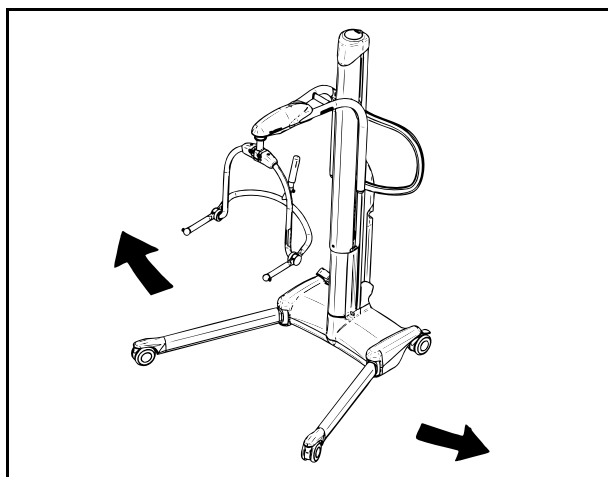

Fig. 13
(See Fig. 13) To open the chassis legs, press the "legs open" button on either the control handset or control panel. When the button is released, movement will stop and the chassis legs will remain securely in position. Always transfer patients with the chassis legs in the closed position.
**CAUTION:** The chassis rear castors have brakes which can be foot-operated when required (see Fig. 13). Do not apply the chassis brakes at this stage, as the position of the patient will adjust to the centre of gravity of the lift while the patient is being raised.